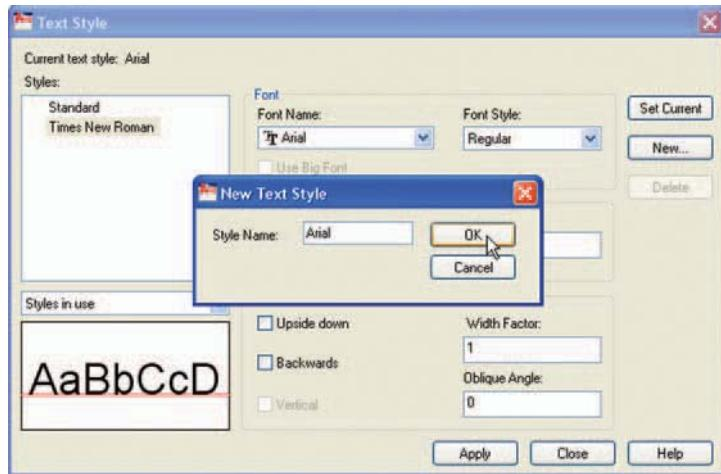

Fig. 4.9 The New Text Style sub-dialog
3. Left-click the **New** button and enter **Arial** in the **New text style** sub-dialog which appears (Fig. 4.9) and click the **OK** button.